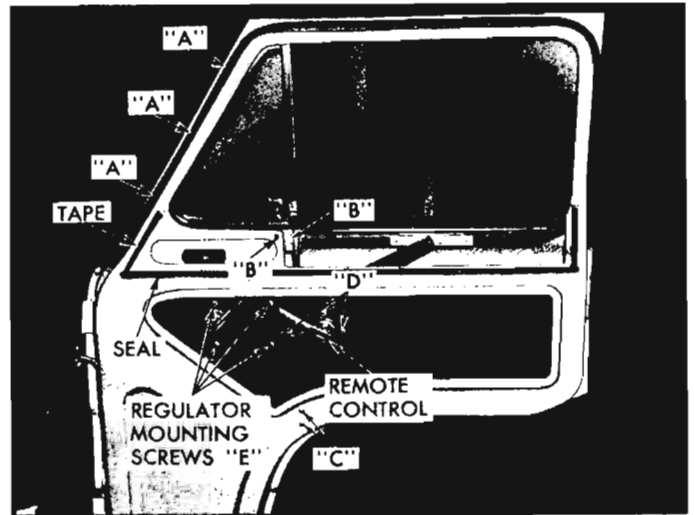

Fig. 10-47a—Door Window Regulator and Ventilator Mounting
3. Remove door ventilator assembly, three retaining screws around ventilator frame ("A", fig. 10-47a), and two screws at ("B", fig. 10-47a) attaching ventilator lower channel to door inner panel.
4. Remove two retaining screws at lower end of ventilator sash channel ("C", fig. 10-47a).
screws ("A", fig. 10-47a). Tighten screws at ("B" and "C", fig. 10-47a).
2. Remove four screws ("E", fig. 10-47a) which attach window regulator mechanism to door inner panel; then remove regulator up through door opening.
3. Install regulator assembly through opening at door inner panel. Install four retaining screws "E", fig. 10-47a).
3. Apply adhesive to door and install sealing tape and rubber seal (fig. 10-47a).